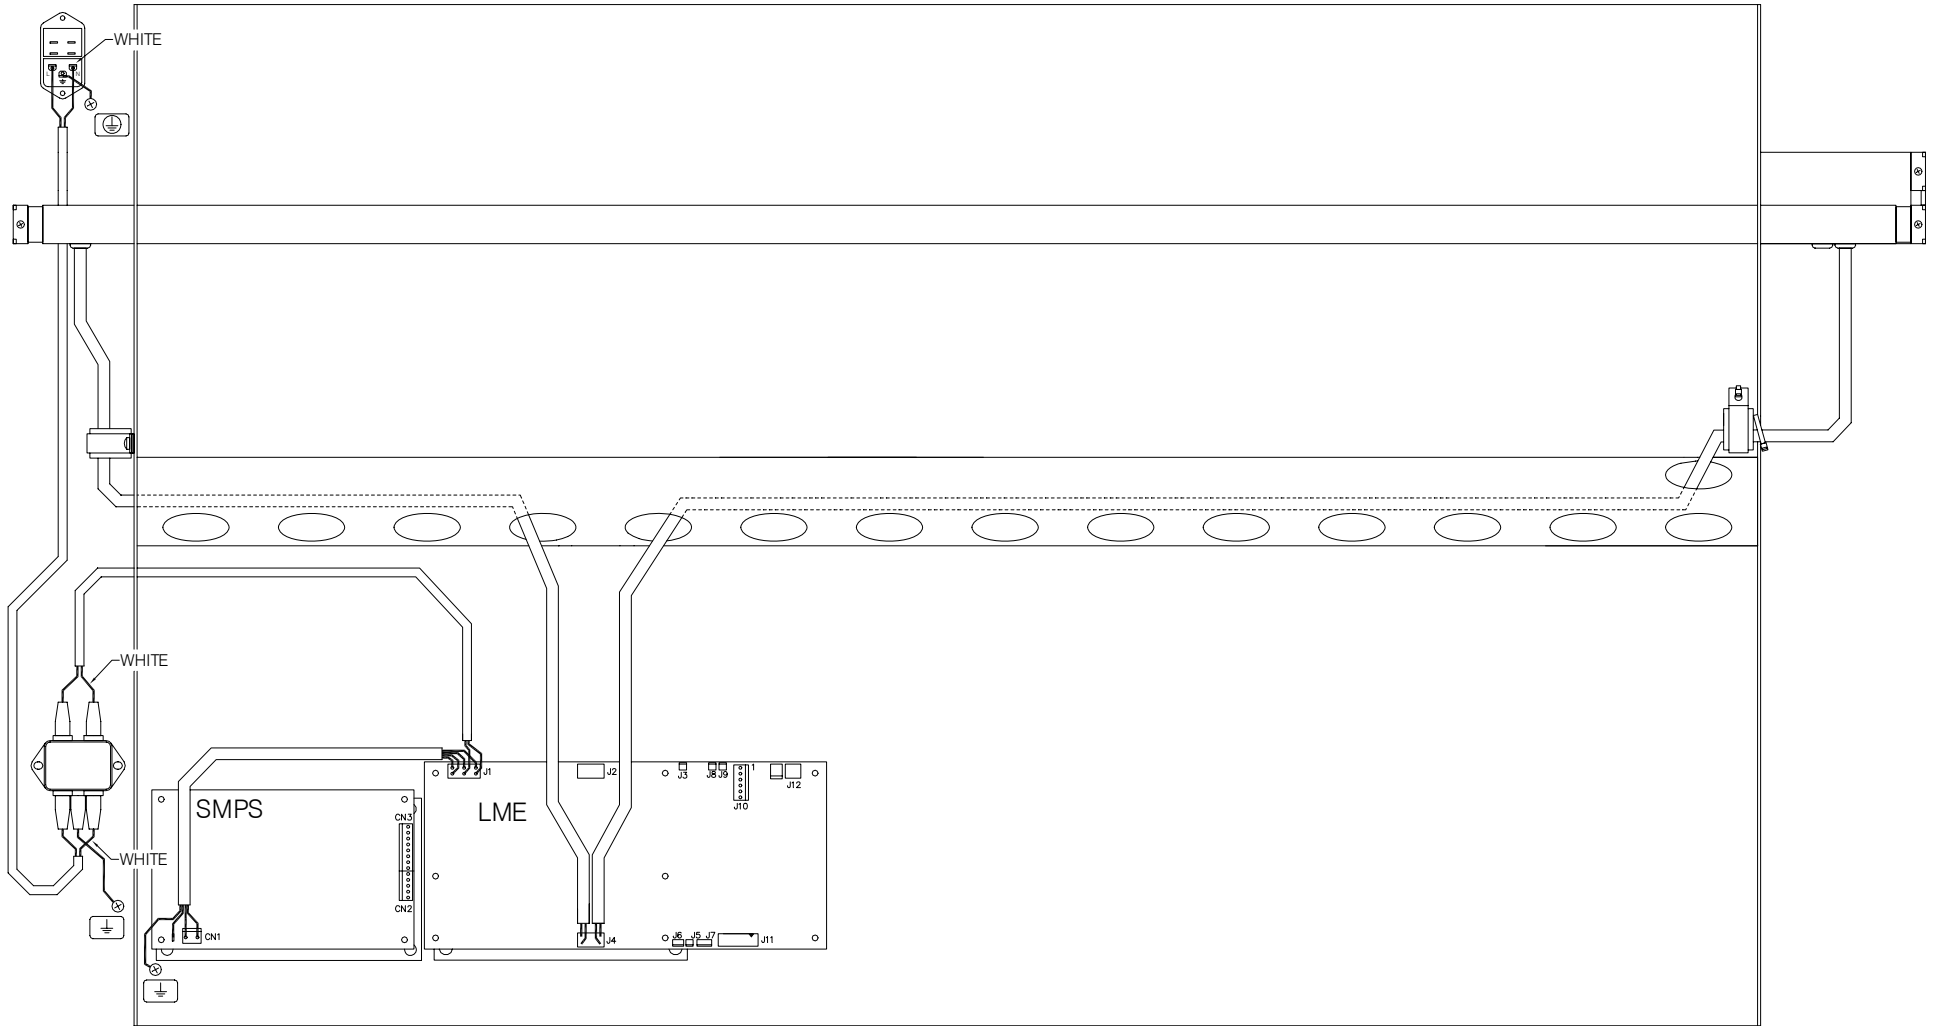

Fig. 11-7 CHAMELEON 36, PREMIER 36, Primary Wiring
- Fig. 11-7 CHAMELEON 36, PREMIER 36, Primary Wiring, page 185